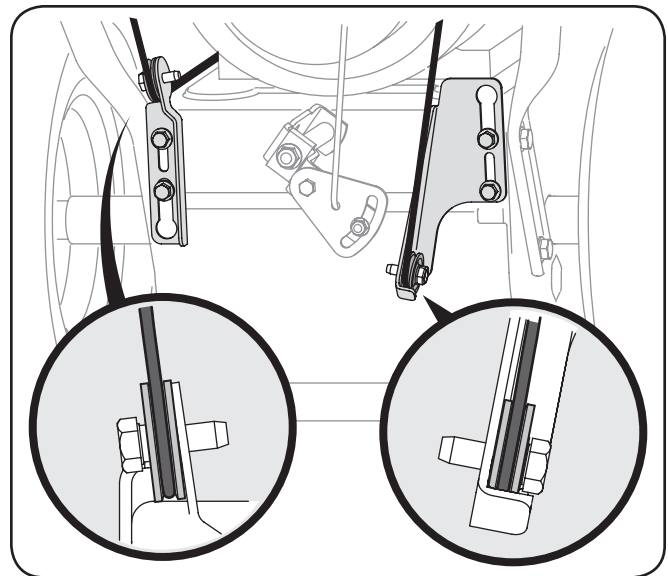

Figure 3-2
**NOTE:** Make certain the upper ends of each cable are seated properly in its pulley. See Fig. 3-2.